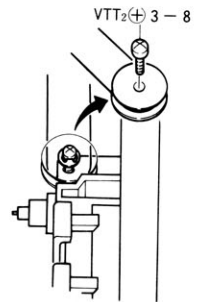

Fig. 13
- 1) Remove the E-ring off and hold the pulley, Tuning dial at the chassis with the screw (VTT₂+3-8) (Refer to Fig. 13)